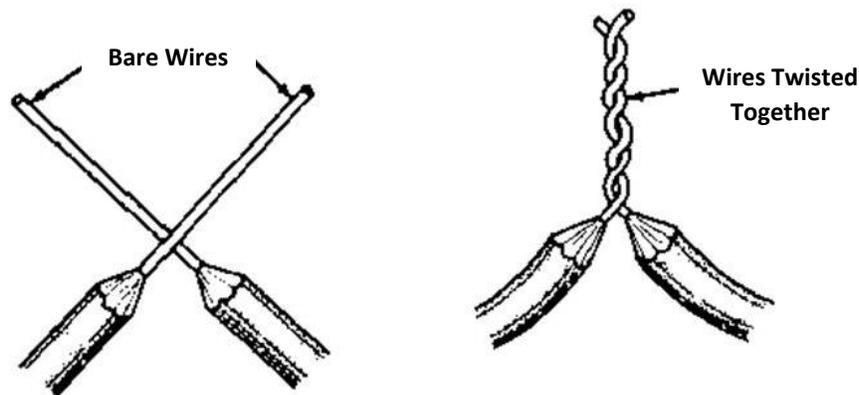

Figure 7.10: Pigtail Splice
- 7-70 A *pigtail splice*, shown in Figure 7.10, is one of the most common splices. It is used mostly in junction boxes and pull boxes. The ends of the wires are stripped about 1½ - 2 inches and twisted together to make the splice. Sometimes the pigtail is bent over so the ends of the wire will not puncture the tape as it is applied.